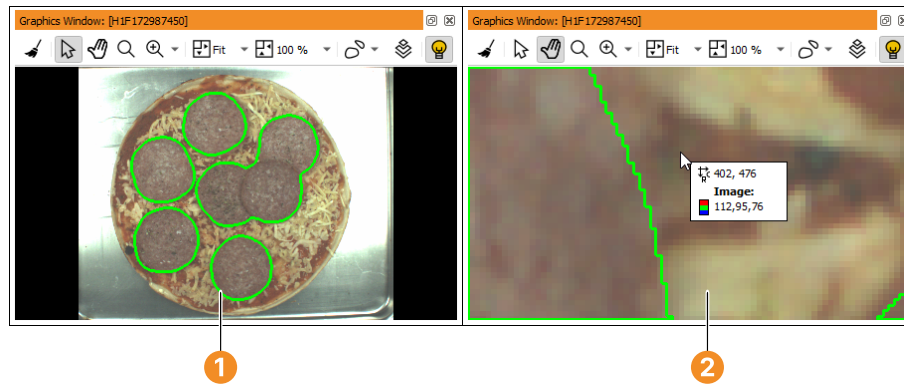

Figure 6.10: Graphics window displaying a tasty pizza.
Figure 6.10 ① shows an example graphics window which is displaying a color image of a pizza overlaid with region data (the segmented salami slices). One of the displayed regions is selected (illustrated by the dashed border). The variable name and index of the selected region is displayed in the title bar.